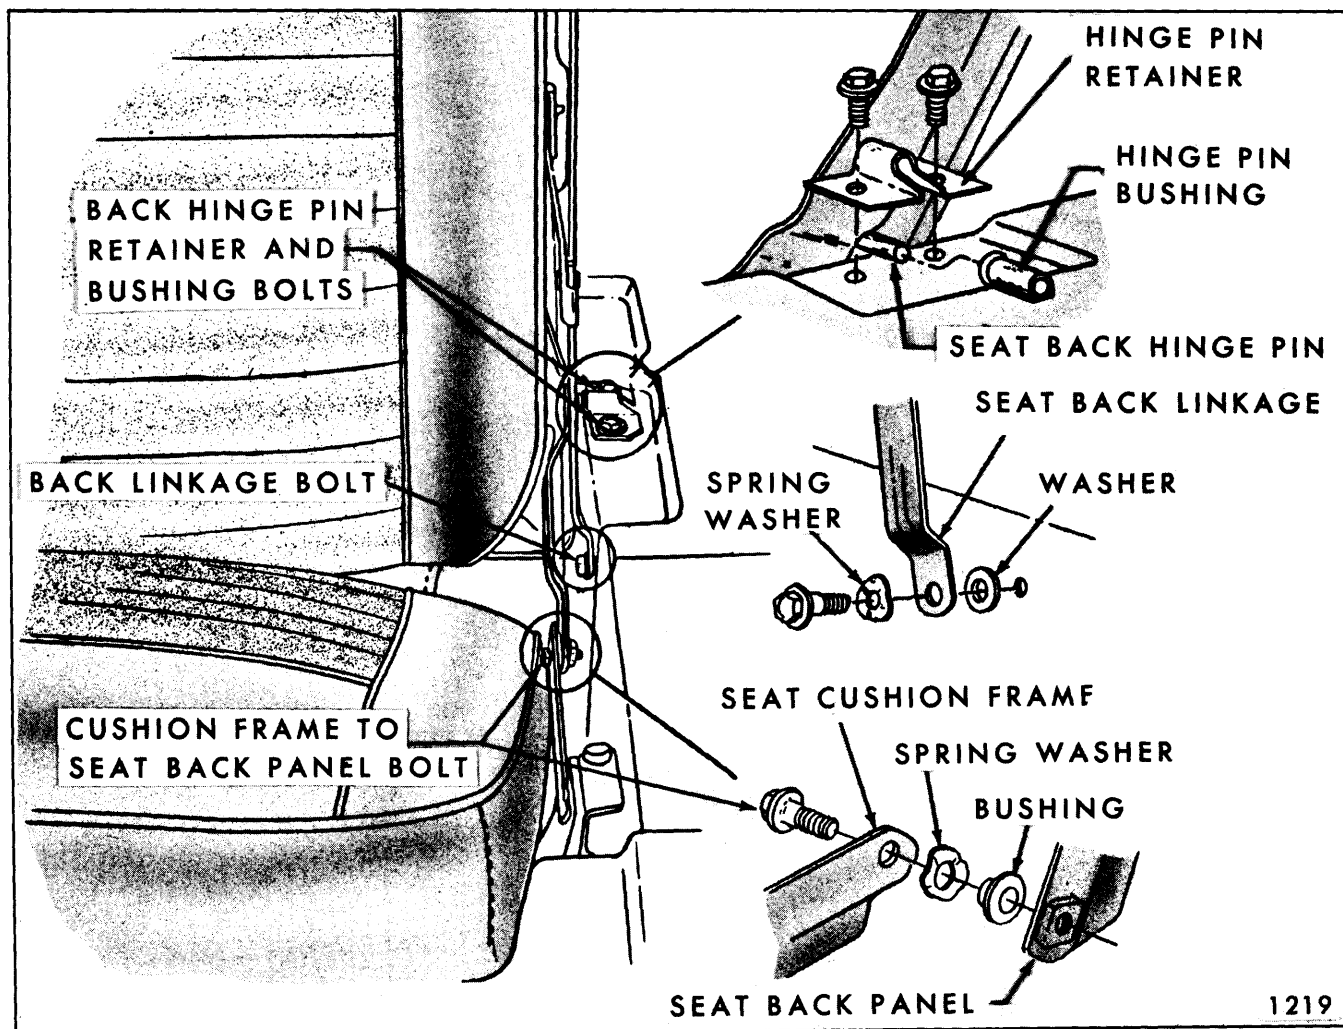

Fig. 15-92—Folding Third Seat (Vista Cruiser and Sport Wagon Styles)
2. Remove seat back linkage-to-compartment side pan attaching bolt (Fig. 15-92) at both right and left sides of seat.
3. At left side of seat remove seat back hinge pin retainer (Fig. 15-92).
between seat back linkage and compartment side pan and spring washer between linkage and bolt head (Fig. 15-92).
3. Remove seat cushion frame-to-seat back panel attaching bolt (Fig. 15-92) from both sides of seat; then, remove seat cushion assembly and place on a clean surface.
5. To install, reverse removal procedure. When installing seat cushion frame-to-seat back panel attaching bolts install bolt bushing and spring washer, as shown in insert of Figure 15-92.
ing bolt (Fig. 15-92); then, remove seat back panel with attached rear floor filler (at kick-up) panel from seat cushion.
5. To install, reverse removal procedure. Refer to inserts in Figure 15-92 for correct installation of linkage bolts, bushings and spring washers.